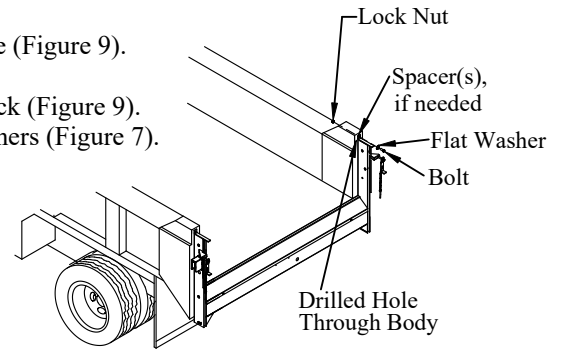

Figure 9: Dump body top mounting ear.
2. **Drill** 1/2" holes through the truck body using the liftgate mounting ears as a guide (Figure 9).
3. **Insert** 1/2" bolts with flat washers through the mounting ears and through the truck (Figure 9).